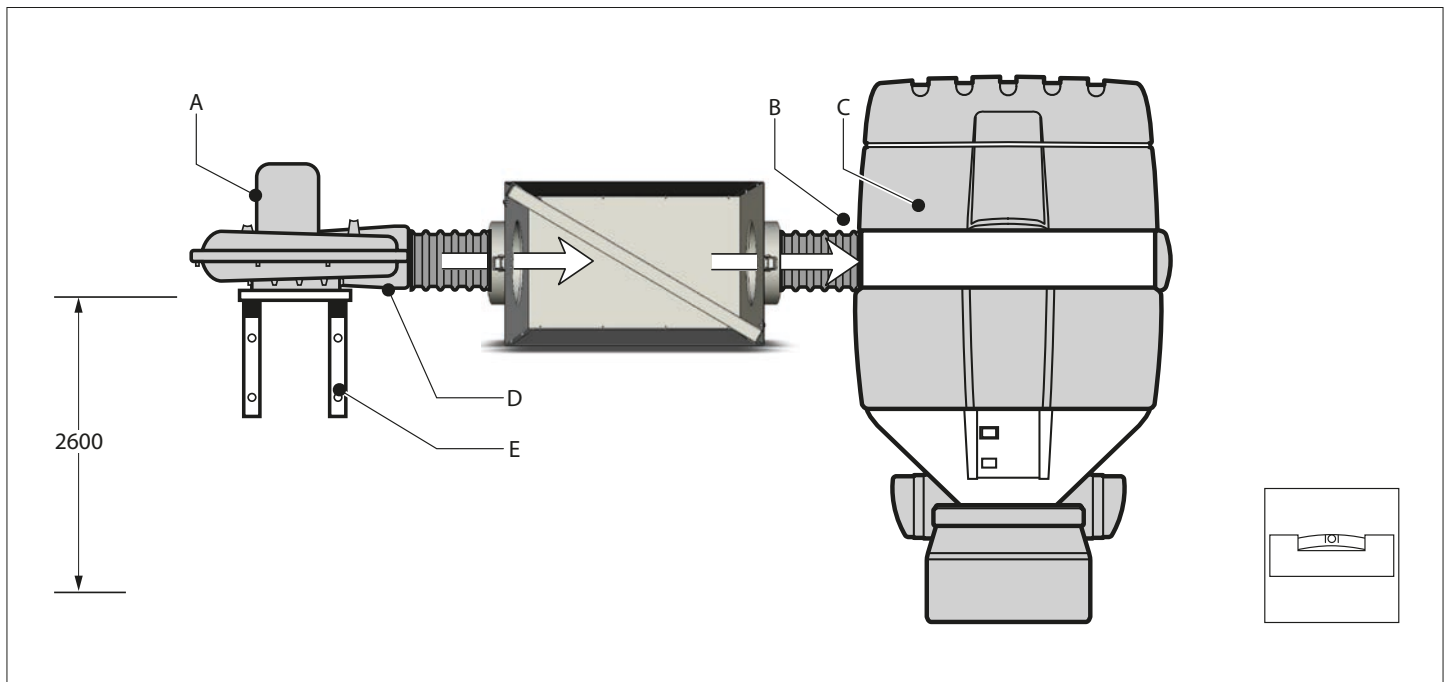
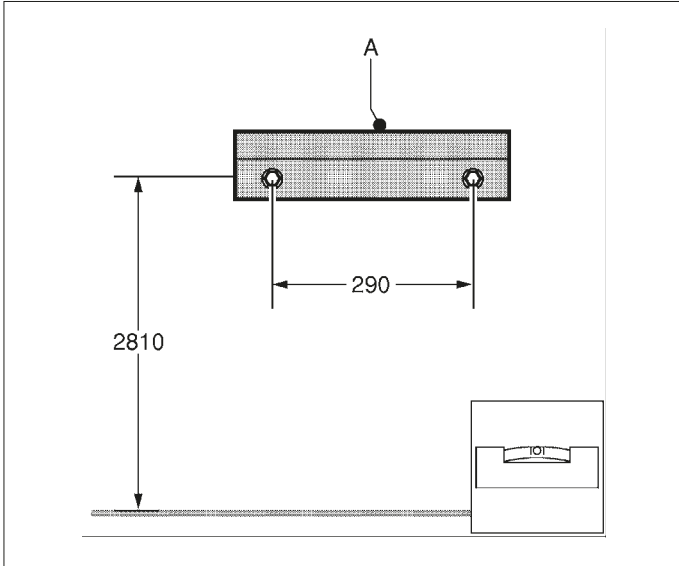

Fig. 4.1
Fig. 4.2
Mount the SFS (Fig. 4.1 C) in such a way that the inlet opening (Fig. 4.1 B) is horizontally in line with the outlet opening (Fig. 4.1 D) of the extraction fan. In the standard set-up the SFS is positioned to the right of the extraction fan (Fig. 4.1 A). See Fig. 4.2 for the recommended height of the wall mounting bracket. For mounting the (NMB or TNB) wall mounting brackets (Fig. 4.1 E) and the extraction fan, see the corresponding manuals.
Before mounting the wall mounting bracket (Fig. 4.2 A) check that the wall is strong enough. The net weight of the SFS is approx. 85 kg (187 lbs). When drilling holes note any gas, water or electricity lines. Do not position the SFS where it is exposed to vibrations or heat radiation from heat source. Observe the earlier described ambient conditions.
- Mount the wall mounting bracket (Fig. 4.2 A). See Fig. 4.2 for the recommended height and the drilling dimensions. Note that the mounting height given only applies if the extraction arm is mounted at 2,600 mm (102.4 in.) and the SFS is horizontally in line with the outlet opening of the extraction fan. Make sure there is sufficient space at the top (min. 700 mm [27.6 in.]); when replacing the filter the cover must be removed.